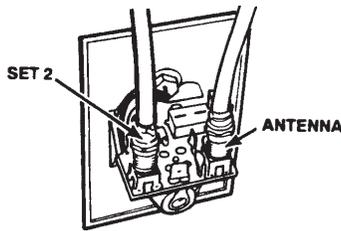

FIGURE 7
STEP 6. The power supply/wall outlet assembly may be flush mounted in most standard electrical boxes. To flush mount cut a hole in wall to fit the box. Run 2 #12 wires between wall outlet and +12 VDC source and route download cable to this location. Install cable between set 2 outlet and power supply SET 2 jack at this time. See Figure 7.
STEP 7. Install connectors on download and set 2 cable as shown on page 4. Attach antenna download cable to jack on power supply marked "ANT". See Figure 7.